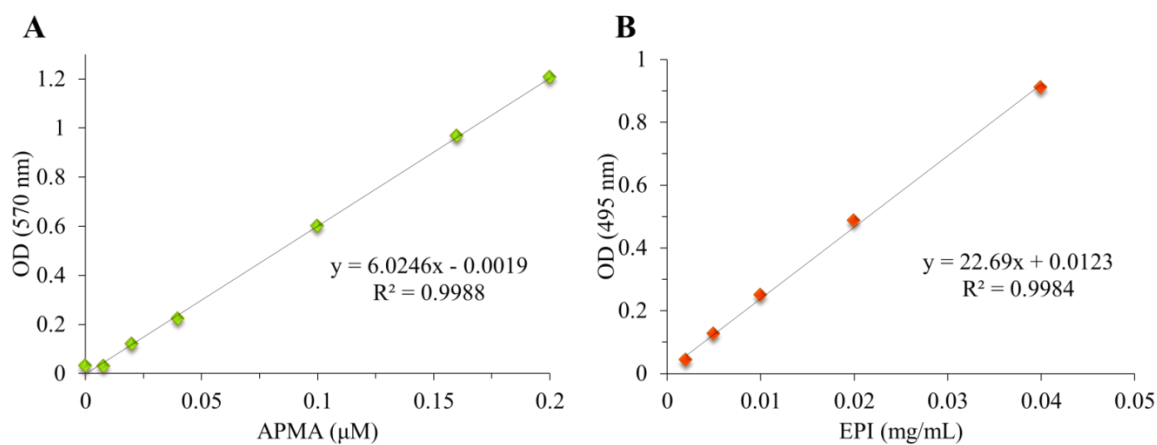

Fig. S11. APMA standard curve for ninhydrin assay (A), and EPI standard working curve (B).
5. Standard curves for determination of amine and epirubicin content	(Fig. S11)